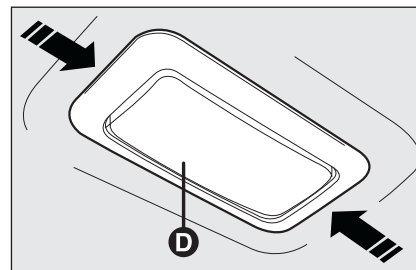
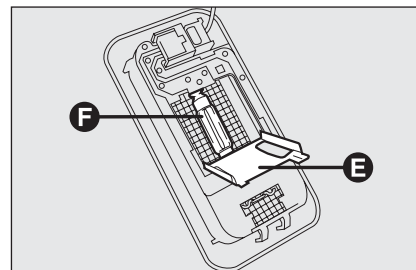

fig. 31
fig. 32
- ☐ work in the points shown by the arrows and remove light **D**-fig. 31;
- ☐ open the protection lid **E**-fig. 32;
- ☐ change the bulb **F**-fig. 32 releasing it from the side contacts and making sure the new bulb is correctly fastened between the contacts;
- ☐ re-close the protection lid **E**-fig. 32 and secure light **D**-fig. 31 into its housing locking it properly.